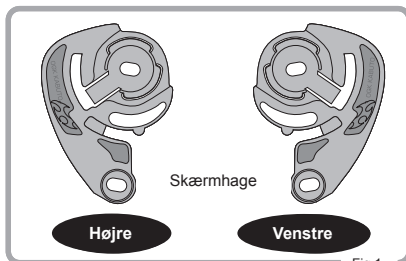

Fig. 1
- 1 First, check the side of the Shield Ratchet as shown in Fig. 1.
- 2 Træk hageremmen ud af kindpuden. (Fig.1)